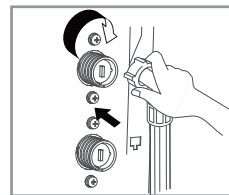

Fig.22
- **Insert the filter into the valve** and tighten up the inlet hose. (Fig.22)